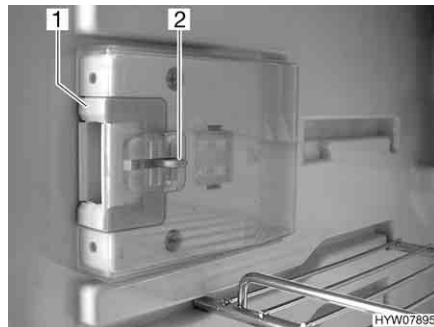
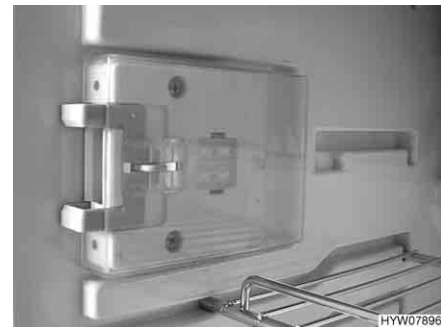

Fig. 142 Locking device in normal position
Fig. 143 Locking device in ventilation position
- Press down the unlocking device (Fig. 142,2).
- Push locking device (Fig. 142,1) forwards (Fig. 143).